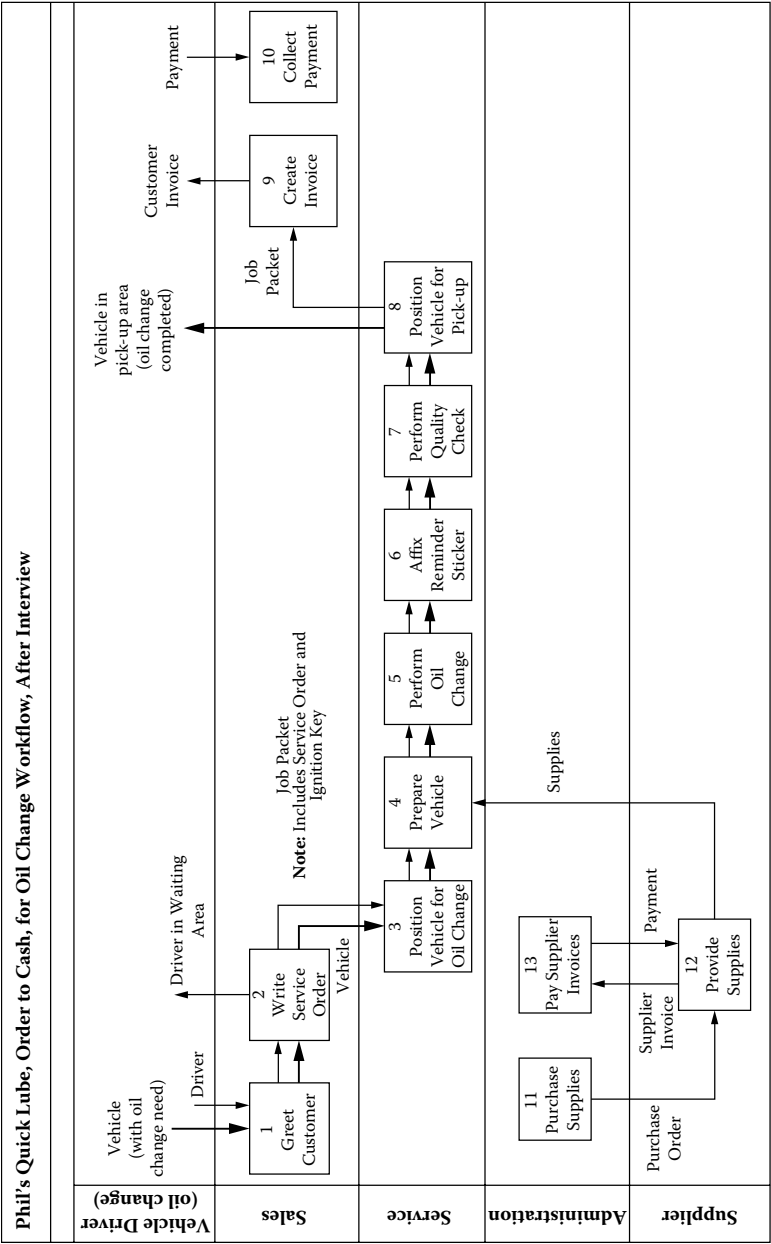
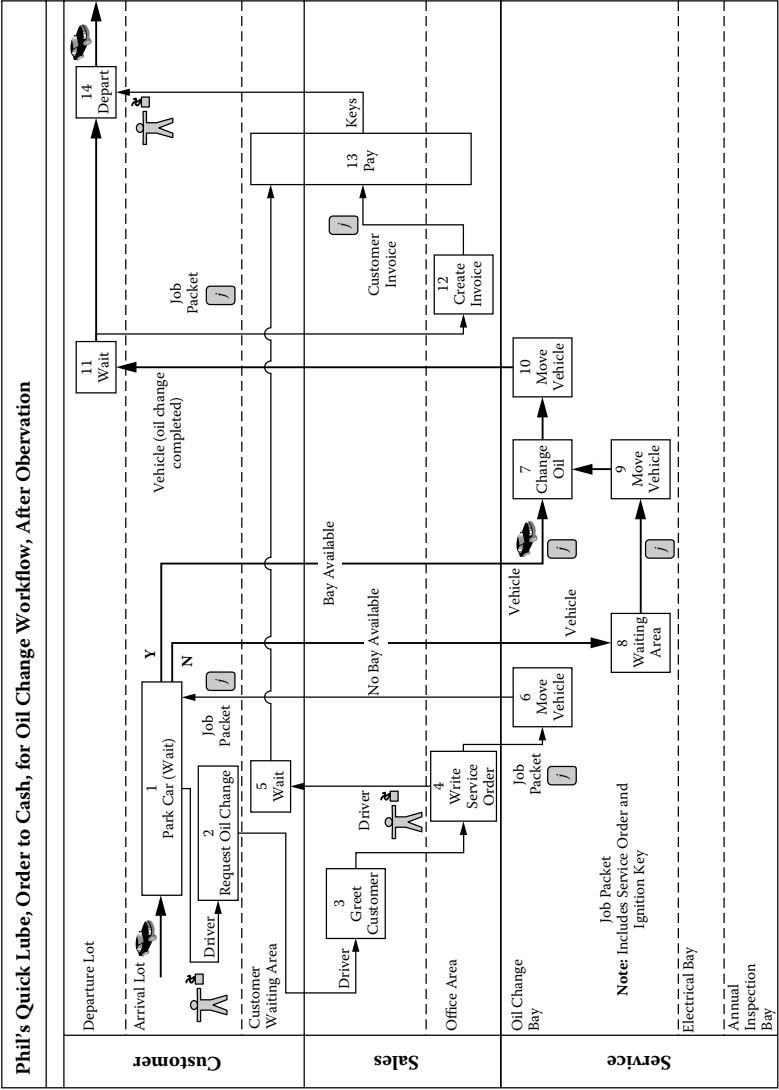

Figure A.17 Cross-functional process map of Phil's Quick Lube interview version.
Figure A.18 Cross-functional process map of Phil's Quick Lube observation version.
7. Use application software to document the map. Take a digital photo of the map on the wall (Figure A.17 and Figure A.18).